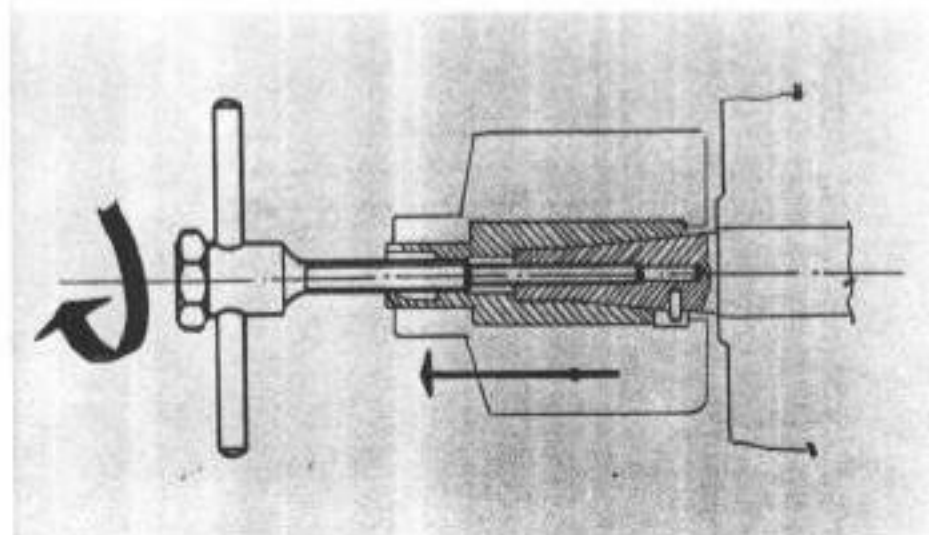

Fig. 14 – Extraction of generator rotor
- c) rotor – fixture No. 09 (fig. 14)